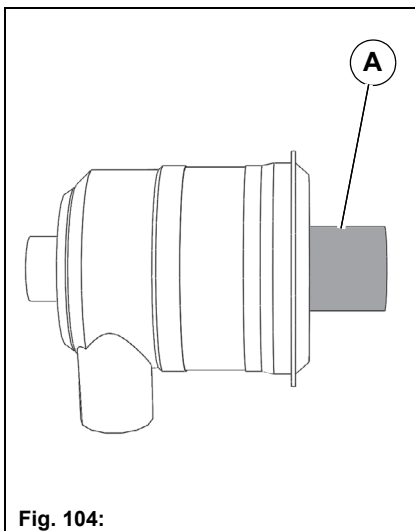

Fig. 104:
Renew the safety cartridge **Fig. 104-A** at the latest every 1000 operating hours when changing the filter insert.
5. Remove and change the safety cartridge **Fig. 104-A**.